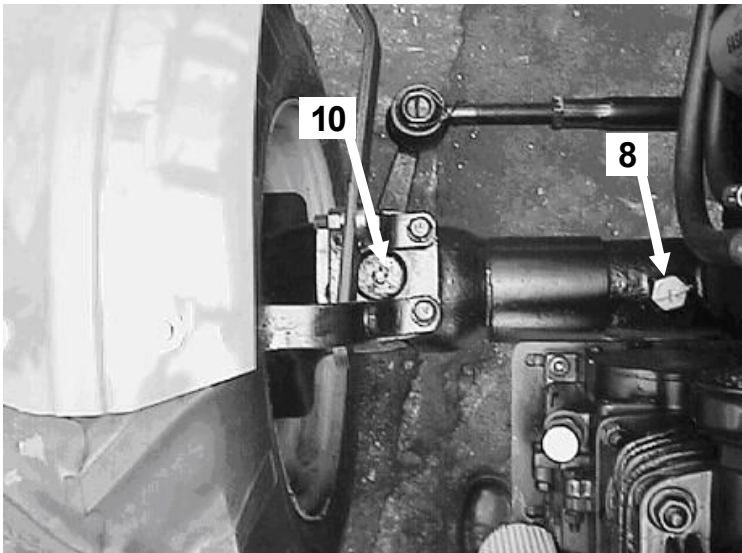

Fig. E-7 Oil filling plug / vent of the front drive axle (8) and the nipple of the axle upper bolt (10).
- front knuckle bolts (Fig. E-7, POS.10; Fig. E-9, POS. 12)